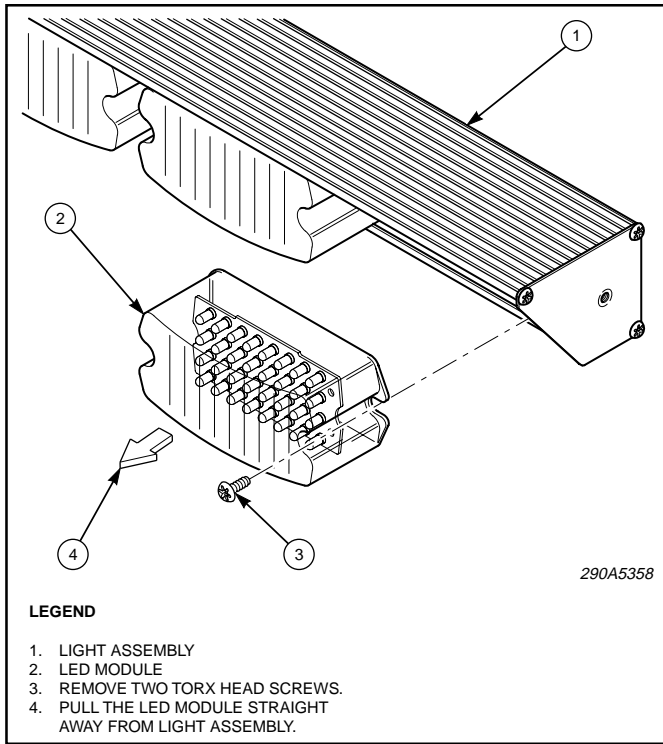

Figure 1.
1. See figure 1. Remove and retain the two screws which secure the LED module assembly.